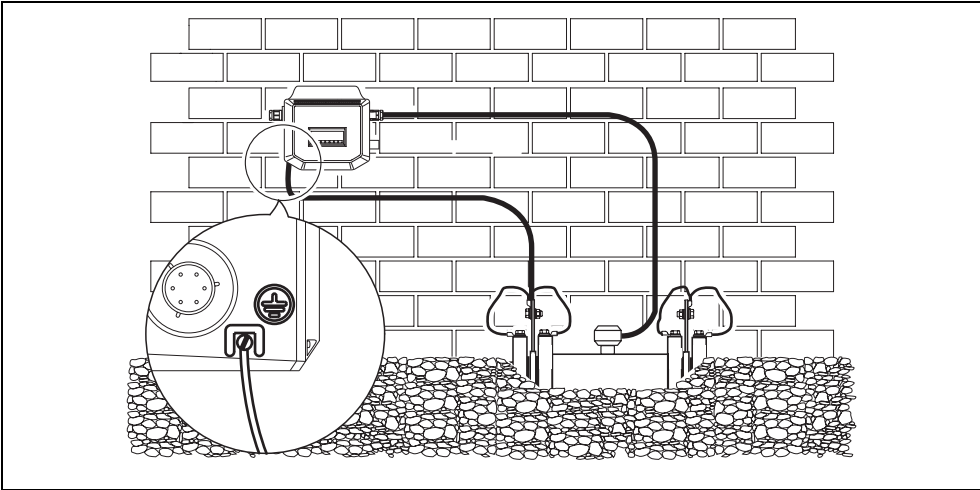
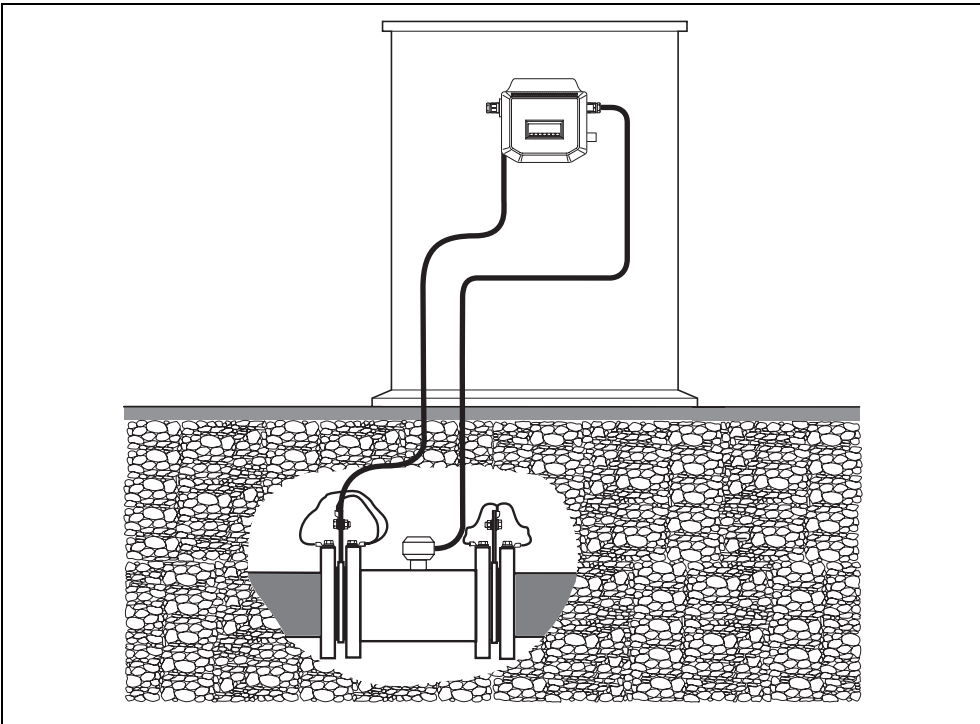

Fig. 3.3 Battery-powered AquaMaster Transmitter Mounted in a Chamber
Fig. 3.4 Mains- or Battery-powered AquaMaster Transmitter Mounted in a Cabinet
- Connect the transmitter ground connection to the flowmeter body ground – see Fig. 3.3 and Fig. 3.4.